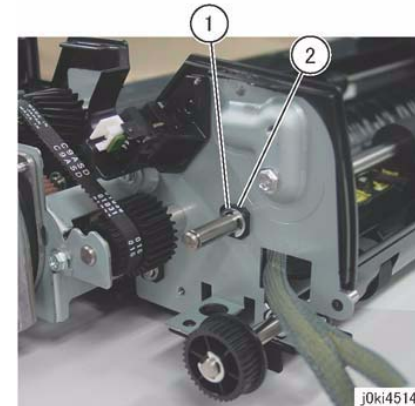

Figure 5 Bearing Removal
- (1) Remove the E-Clip.
- (2) Remove the gear.
14. Remove the bearing at the rear. (Figure 5)